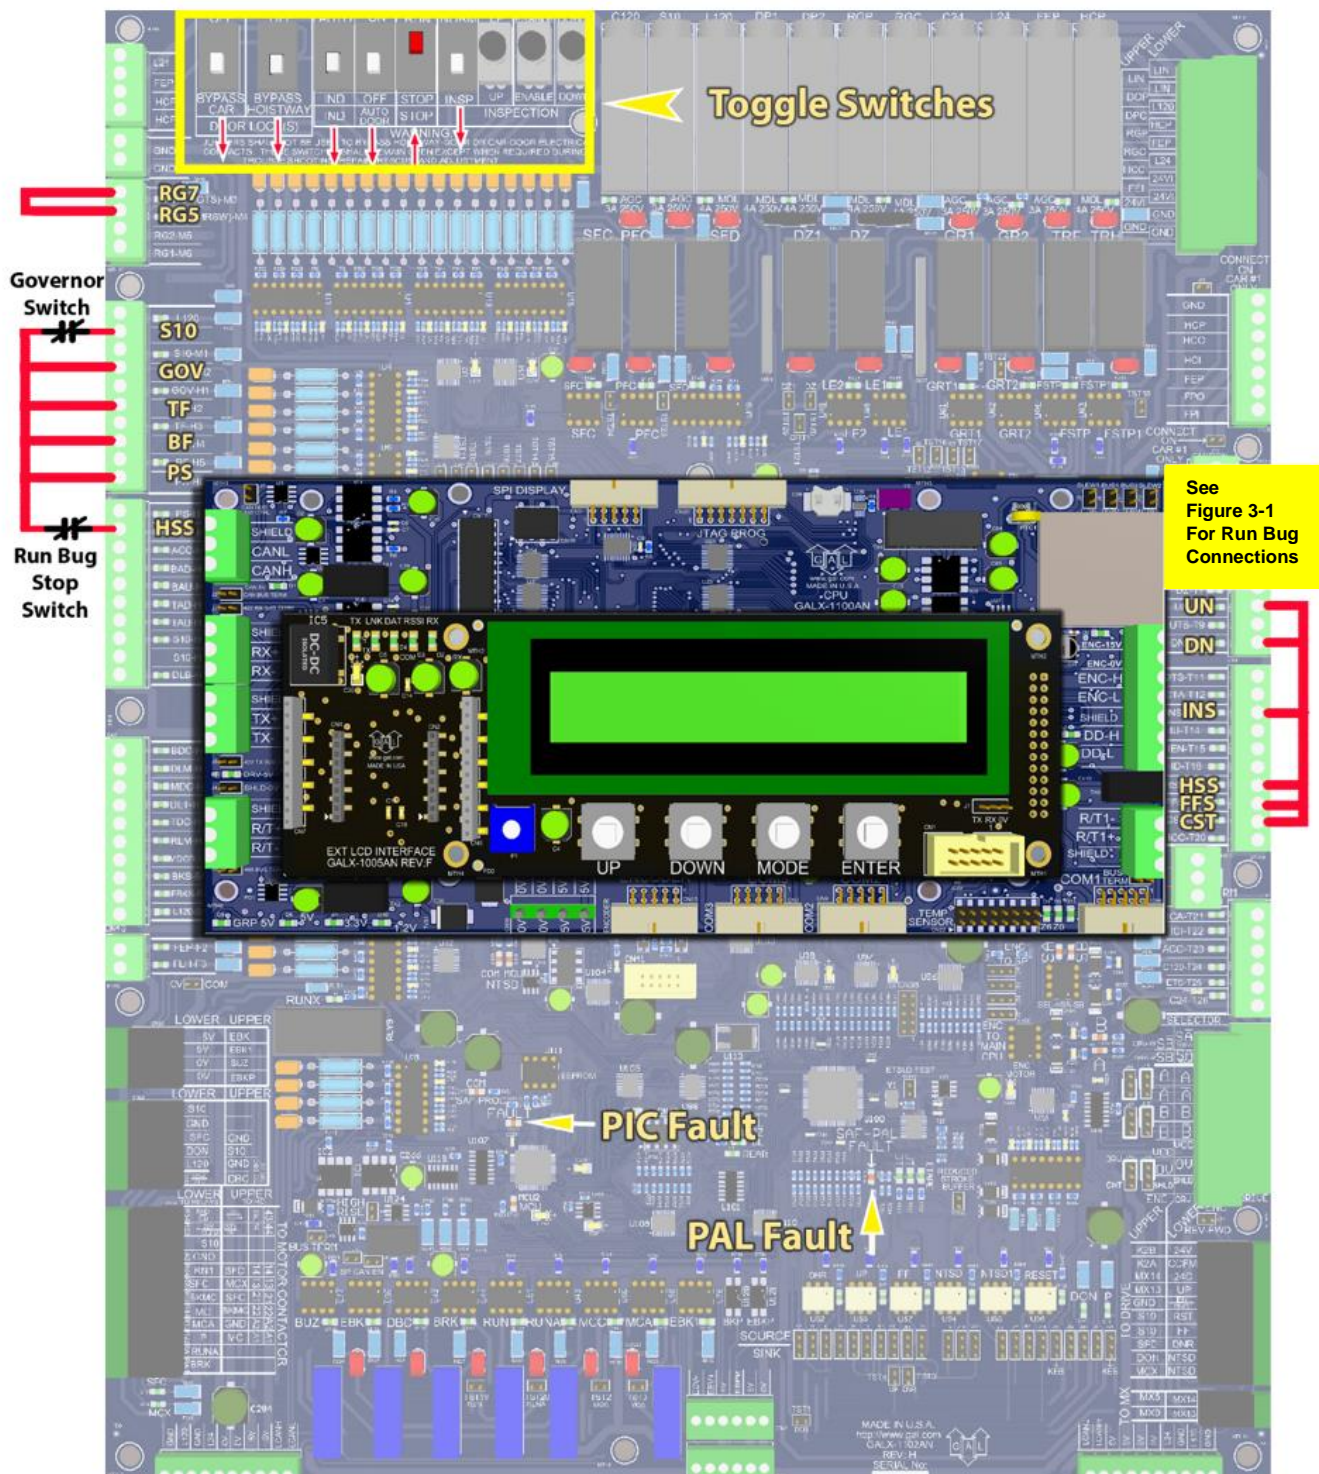

Figure 3-4: GALX-1102AN Main I/O
- Set the toggles switches on the GALX-1102 Main I/O Board as show in Figure 3-4.
- 8) Verify the PIC and PAL fault LED's are off. See the GALX-1102AN Main I/O Board in Figure 3-4. If these LED's are on, refer to Section 04 Troubleshooting.